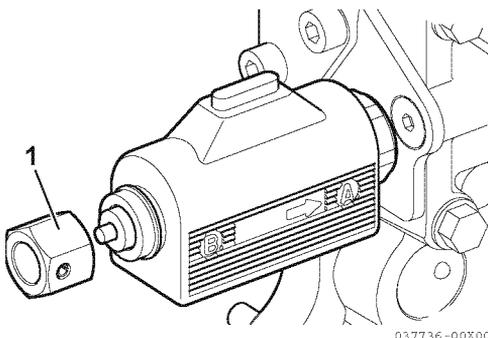

**Figure 8**
1. With the engine(s) not running, remove cap (1, **Figure 8**), and emergency nut (2, **Figure 8**).